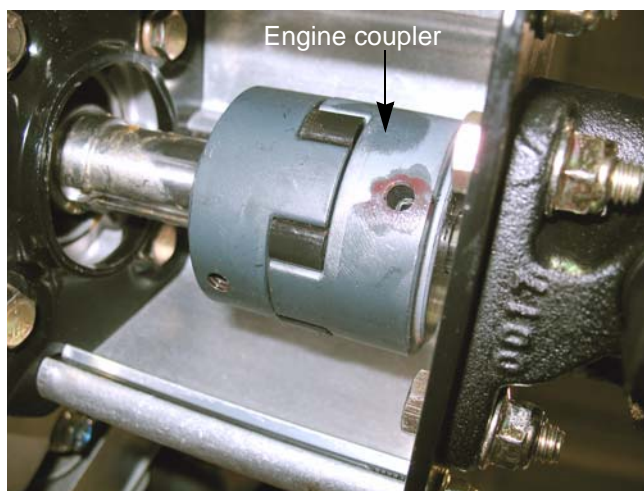

Figure 3.9
- A. Engine coupler: See Figure 3.9.